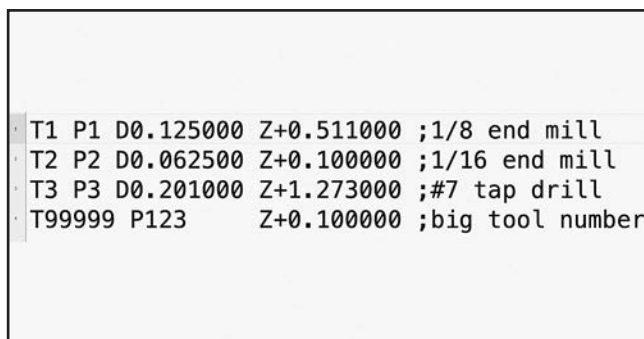

Figure 36. Example of text editor screen.
10. Remove USB flash drive and insert it into an open USB port on your personal computer, then open **tool.tbl** file with a text editor (see **Figure 36**).